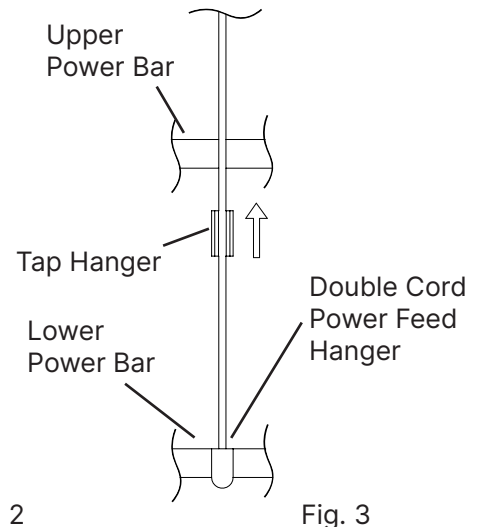
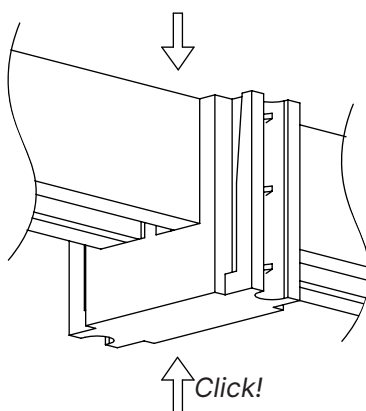

Fig. 3
Fig. 4
3. Press down firmly on the top of the **Power Bar**, while pressing up on the bottom of the **Hanger**, until the Power Bar clicks into place (Fig. 3). Repeat for the second Power Bar.
4. Position **Tap Hanger** under **Upper Power Bar** at junction with **Double Cord Power Feed Hanger** (Fig. 3). Press down firmly on top of the Upper Power Bar, while pressing up on the bottom of Tap Hanger, until Tap Hanger clicks into place (Fig. 4).